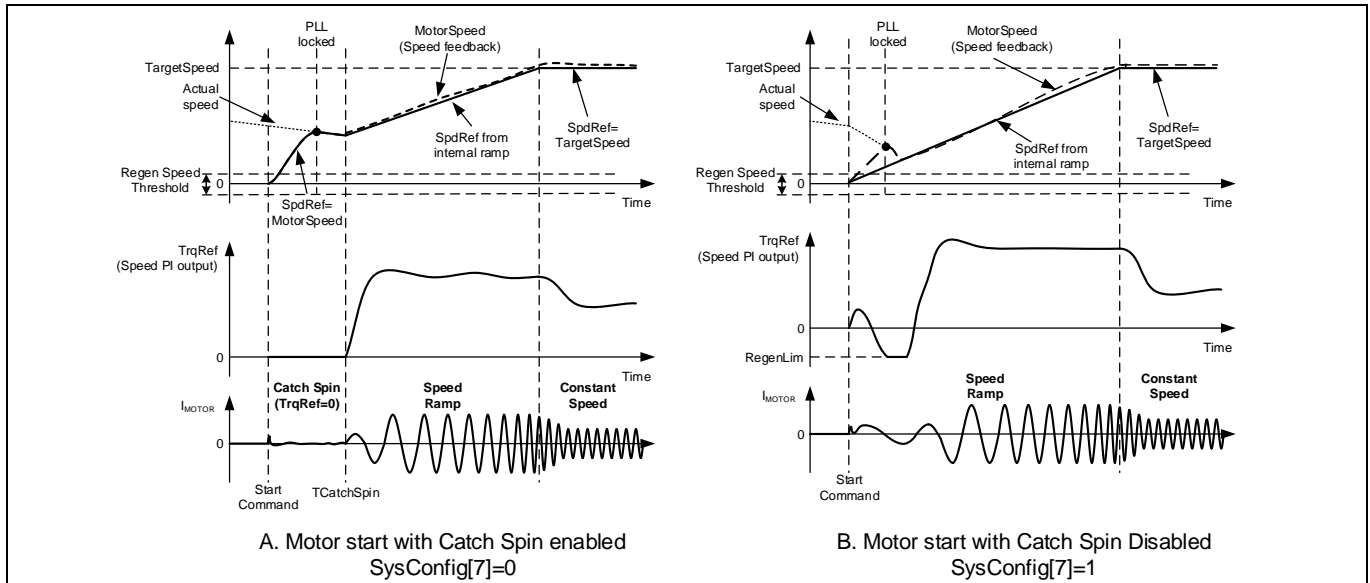

Figure 28 Forward Catch Spin - Motor start with/without catch spin
If the motor is spinning in the same direction as desired, then the catch spin sequence is termed as ‘Forward Catch Spin’. Figure 28 (A) shows an example for ‘Forward Catch Spin’. In this example, at the start command the motor is already spinning (in the desired direction). During the catch spin sequence, no motoring current is injected. After the catch spin time has elapsed, assuming the flux PLL locks to the actual motor speed, the motor speed at that instance becomes initial speed reference and starting point for speed ramp reference. The motor continues to accelerate or decelerate, following the speed ramp reference to reach the set target speed.
If catch spin is disabled, normal speed control starts immediately after the start command, without waiting for PLL to be locked. Usually the control would still be able to start a spinning motor, but motor speed may not increase/decrease seamlessly. As shown in Figure 28 (B), after the start command, the actual motor speed is higher than speed reference (variable ‘SpdRef’). Hence, the motor is decelerated (using regenerative braking) to force the motor to follow the speed reference (variable ‘SpdRef’). As the speed of the motor is higher than Regen Speed Threshold (variable ‘RegenSpdThr’), the negative torque injected in the motor to achieve deceleration is limited by the value in RegenLim parameter. Once the motor speed matches the speed reference, the motor starts accelerating, following the speed ramp reference to reach the set target speed.